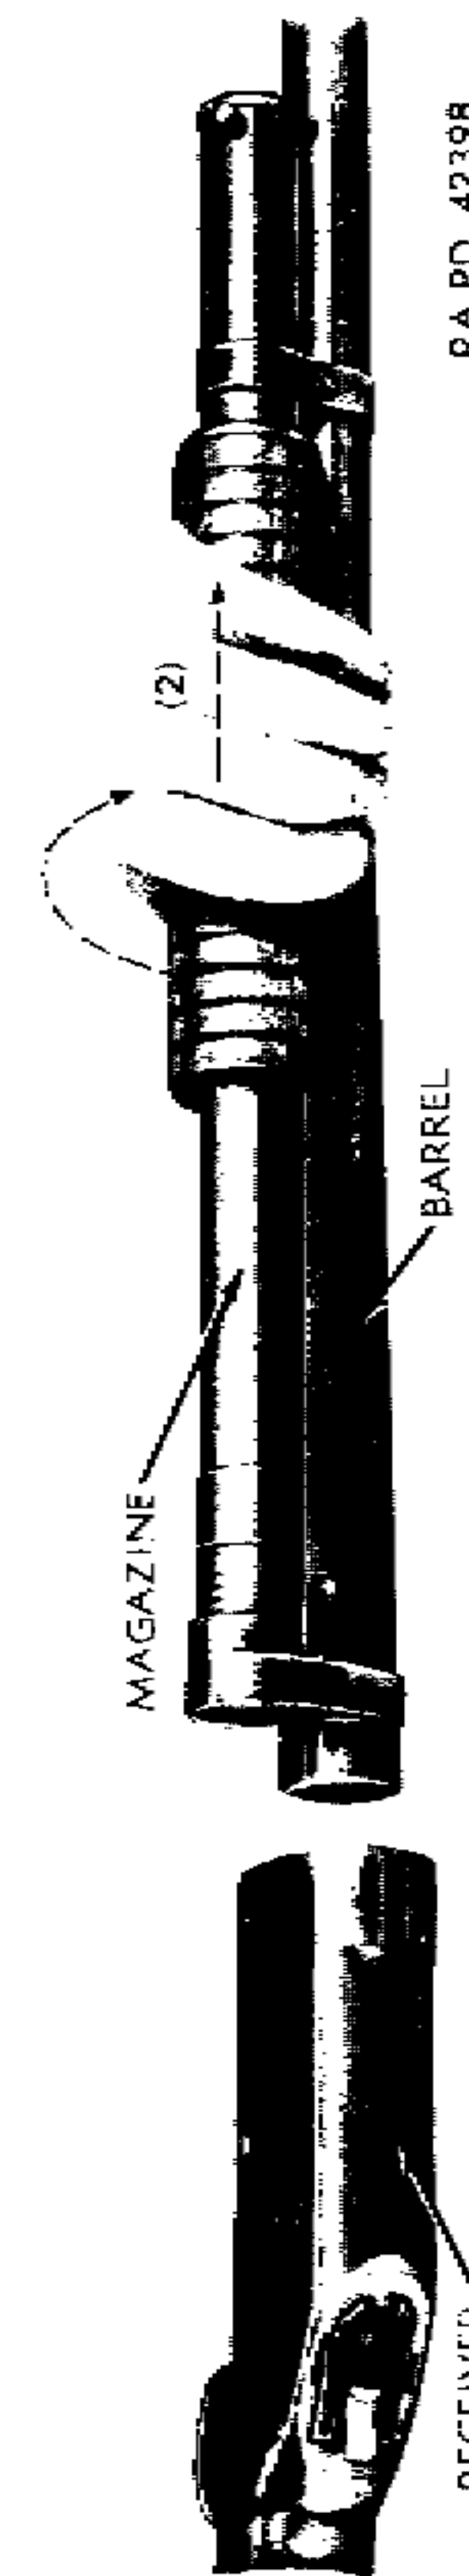

Figure 17—Barrel and Magazine Disengaged from Receiver—Winchester Shotgun M97 (Take-down)
**(c)** Push the action slide handle forward until the rear end of the bar is free of the receiver. Then, grasp barrel and magazine in left hand and receiver in right hand, and turn the barrel ¼ turn clockwise to disengage the interrupted threads on the rear of the barrel from those in the receiver, and withdraw the group forward from the receiver (fig. 17).
**(3) CARRIER GROUP.** With barrel, magazine, and action slide groups (take-down gun) or magazine and action slide group (solid-frame gun) removed, the carrier may be removed as follows: